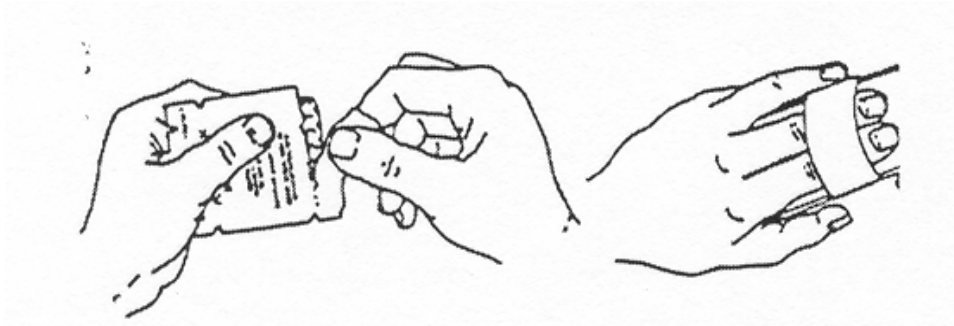

Figure 4-6. Unfolding applicator pad
- m. Unfold applicator pad and slip your fingers into the handle (see Figure 4-6).